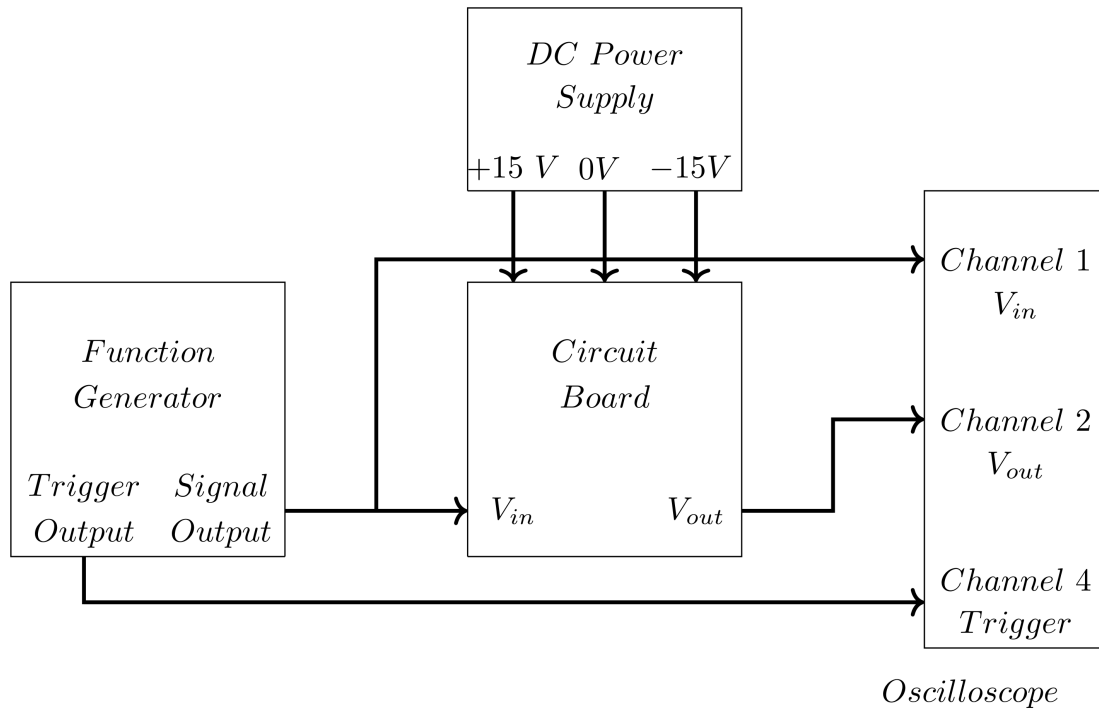

Figure 15: Test and measurement setup for op-amp circuits
1. Build the voltage follower using the function generator as V_{in} , set to a 400 mV_{pp} sine wave at 432 Hz (like we did in Lab 2). Figure 15 shows a schematic of the full set up using Channel 1 to measure V_{in} , Channel 2 to measure V_{out} , and Channel 4 to trigger on the Sync output. **You should use an oscilloscope probe for this measurement** (and probably all oscilloscope measurements for the rest of your electronics career, but certainly for this course).